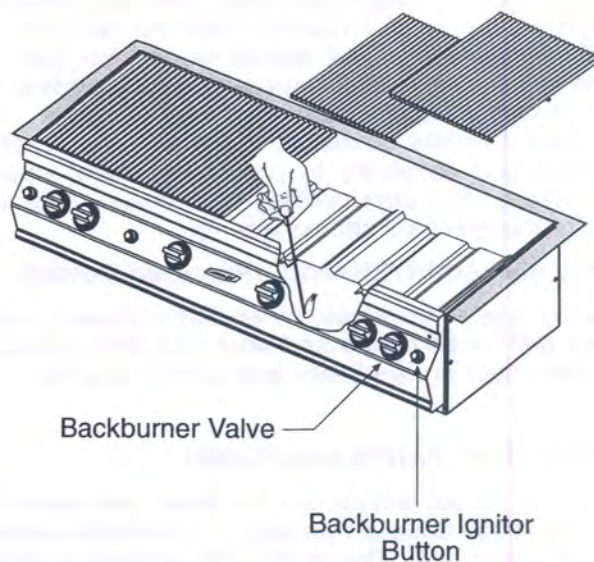

Figure 15 - Knob Positions & Manual Lighting
2. Insert either a burning long-barrel butane lighter, a burning long-stem match or a burning match held by a wire extension holder (Figure 14) through the Cooking Grids to the Burners below the Flavor Grid (Figure 15). For Backburners, hold the flame against the perforated material near the Backburner.
REMEMBER: FOR SAFE MANUAL LIGHTING, PLACE A BURNING MATCH OR BUTANE LIGHTER BESIDE THE BURNER - THEN TURN ON THE GAS (Figure 15).